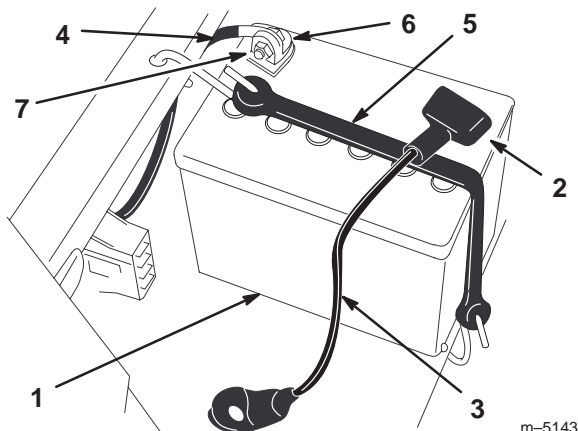

Figure 25
3. Disconnect the negative (black) ground cable from the battery post (Fig. 25).
4. Slide the rubber cover up the positive (red) cable. Disconnect the positive (red) cable from the battery post (Fig. 25).
- Remove the battery hold-down (Fig. 25) and lift the battery from the battery tray.
- Position the battery in the tray with the terminal posts away from the control panel (Fig. 25).
- Secure the cables with 2 bolts (1/4 x 3/4 in.), washers (1/4 in.), and nuts (1/4 in.) (Fig. 25).
- Secure the battery with the hold-down (Fig. 25).